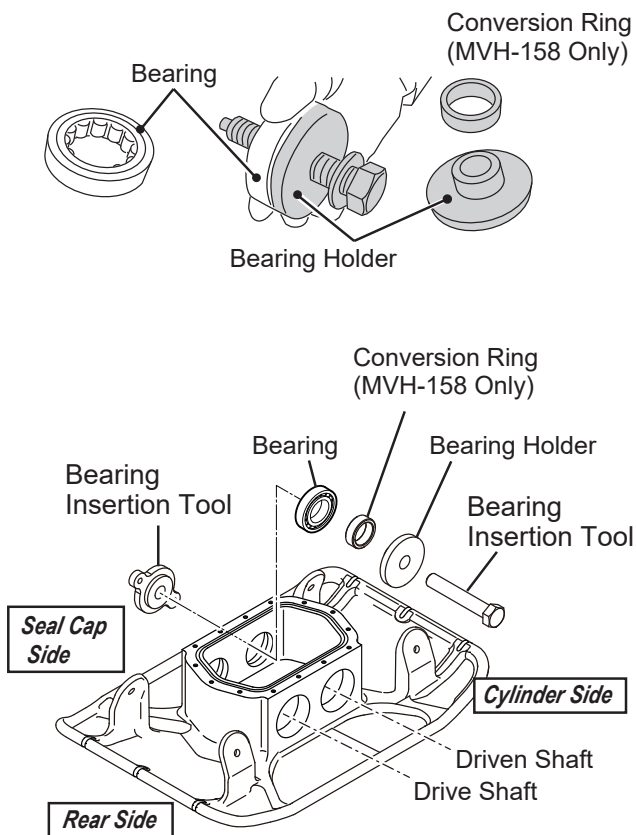
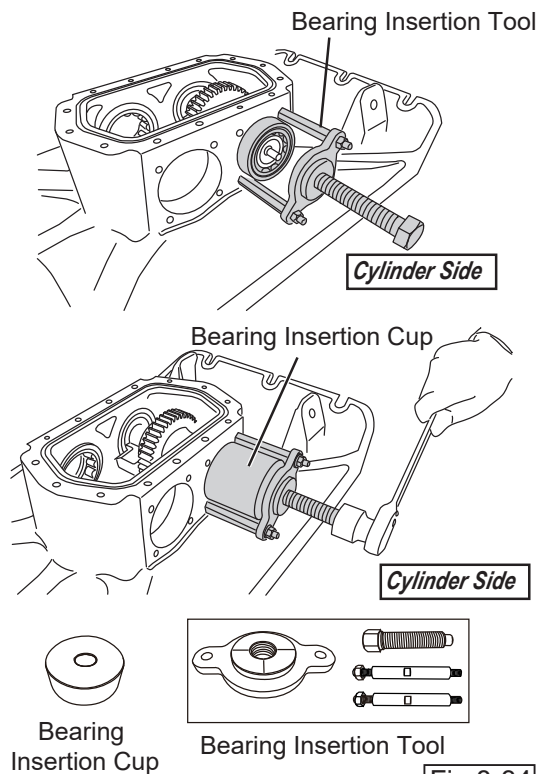

Fig.8-32
Fig.8-34
- i. Press fit the bearing of the pulley side of driven shaft of vibrator case from inside of vibrator case with the bearing insertion tool according to fig. 8-32.(Fig.8-32)
- k. Press fit the bearing to the cylinder side of vibrator case with bearing insertion tool and cup according to fig.8-32. At this time, press fit the bearing 2 to 3 mm deep from the surface of vibrator case.(Fig.8-34,35)